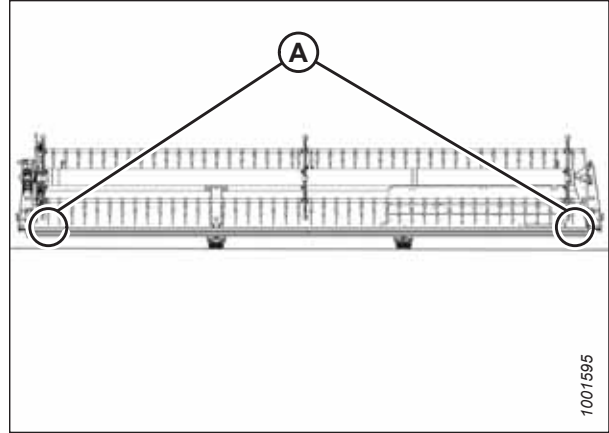

Figure 6.28: FlexDraper® Measurement Locations – Single Reel
- Single-reel headers: Figure 6.28, page 272